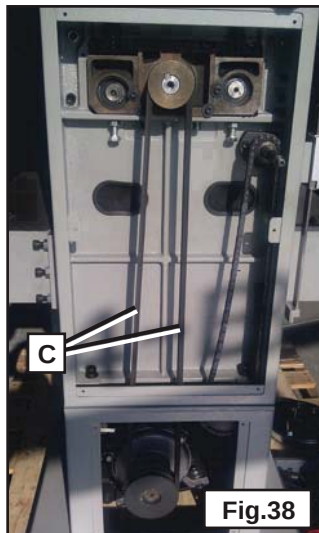

Fig.38
3. Belt tension, Fig.38 (C) should have a slight deflection of 1/4".